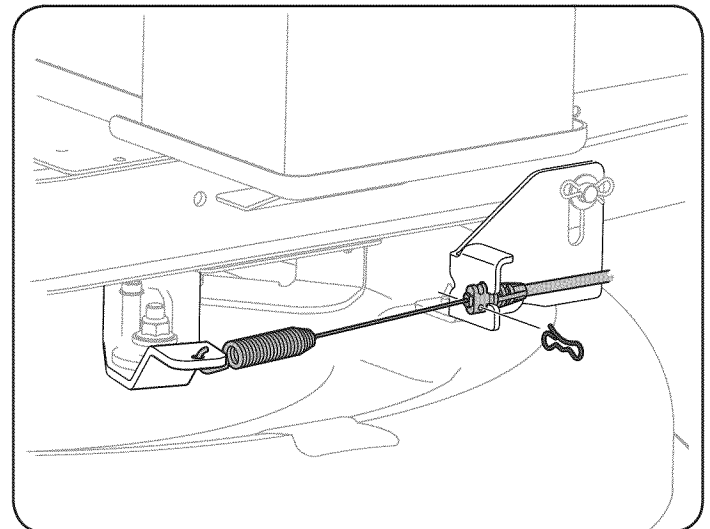

Figure 34
8. Carefully remove the PTO cable from the rear of the cutting deck by removing the bow-tie cotter pin which secures it. Remove the spring from the deck idler bracket. See Fig. 34.